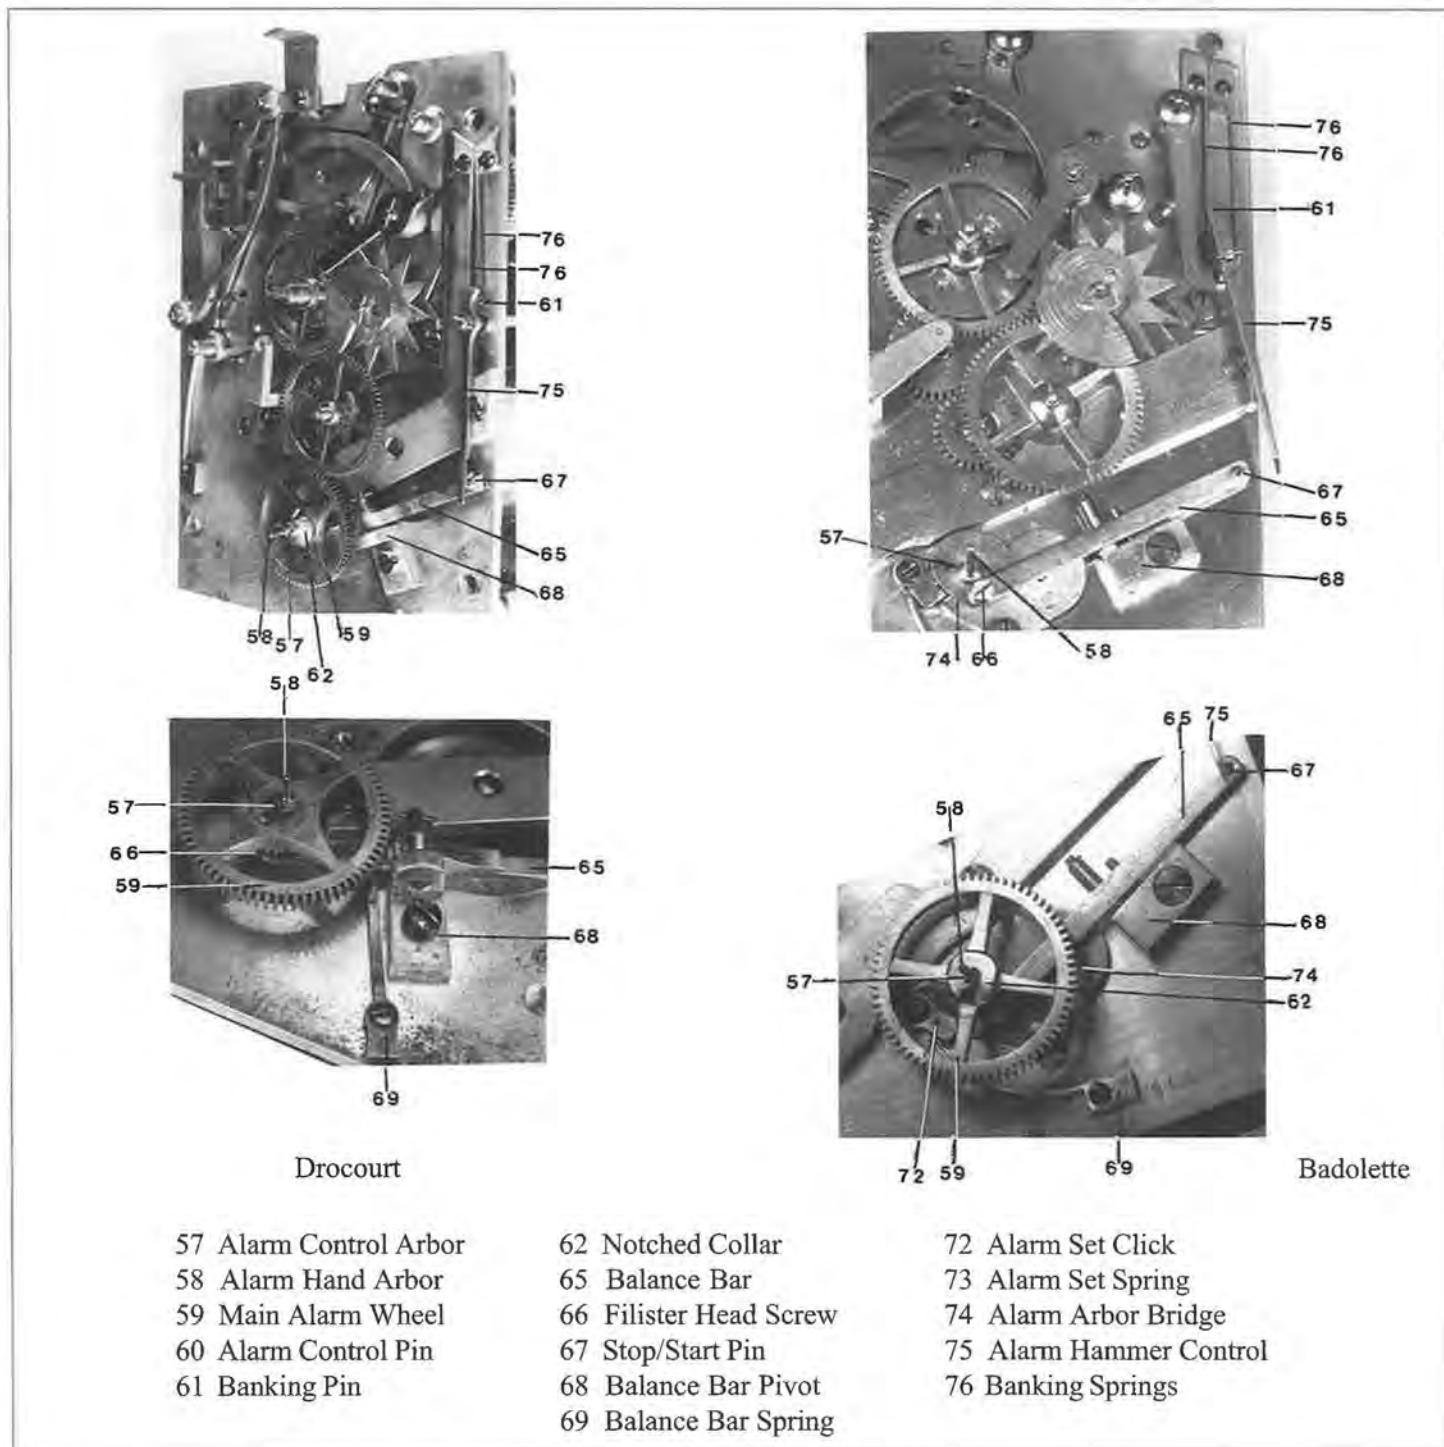

Figure 40.1. Alarm System Component Comparison
**The alarm control assembly (Figures 40.1 and 40.2)** is comprised of the alarm control arbor (57), the main alarm wheel (59), the alarm control pin (60), the notched collar (62), the balance bar (65), and the stop/start pin (67). This assembly is located on the front plate below the motion work (Figure 40.1). The hour wheel drives it through an intermediate wheel (not numbered). The main alarm wheel is freely rotating on its arbor. There is a difference here between the two clocks. The Drocourt has the wheel mounted on the alarm control arbor (57), which can also be called the alarm set arbor (84), (Figure 40.3) at its other end. It is also free to move up and down. A square is milled just above the free-range area of the arbor. The notch collar is fitted and pinned to that square. It therefore rotates with the arbor (57/84). The alarm control pin (60) is attached to the upper surface of the alarm control wheel (59). As the wheel turns the pin rides under the notched collar.